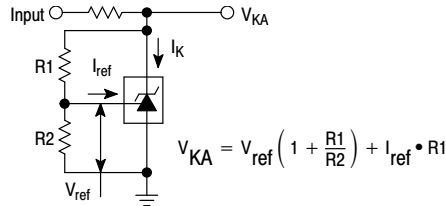

Figure 2. Test Circuit for $V_{KA} > V_{ref}$
- The dynamic impedance Z_{KA} is defined as $|Z_{KA}| = \frac{\Delta V_{KA}}{\Delta I_K}$. When the device is programmed with two external resistors, R1 and R2, (refer to Figure 2) the total dynamic impedance of the circuit is defined as: $|Z_{KA}'| \approx |Z_{KA}| \left(1 + \frac{R1}{R2} \right)$